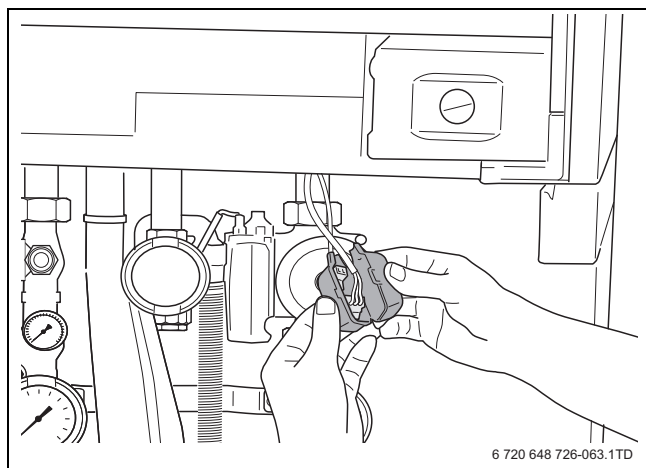

Fig. 63 Removing the covers
- ▶ Connect the free 230 VAC mains cable (→ fig. 63) to the module [1]. If more modules are used, the 230 VAC supply for the second module can be taken from the first module using the cable enclosed with the module.